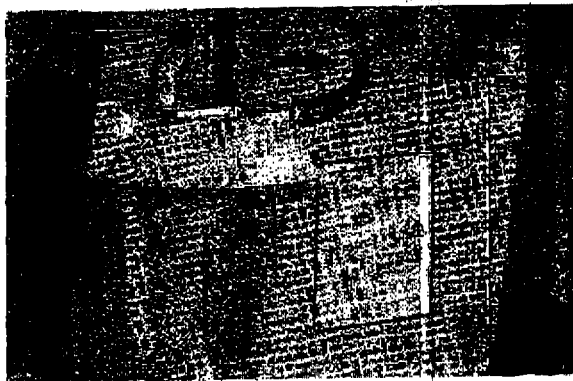

FIGURE 4.12 CHECKING THE SUCTION BOTTLE
1. Check that a clean suction bottle (reusable or disposable, Figure 4.12) is installed and properly connected in the Resuscitation Equipment Storage Compartment at the front of the warmer.
CAUTION: When installing the disposable Suction Bottle: to prevent the suction tube from being blocked or damaged, position the Outlet Port parallel to the plate (Figure 4.12).